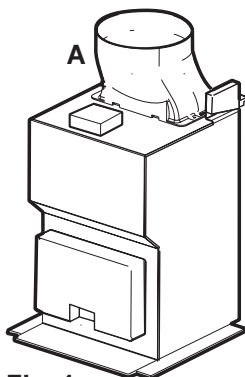

Fig. 1
- In this mode fumes are extracted to the outside via a **hose** connected to the **coupling ring A. Fig. 1**.